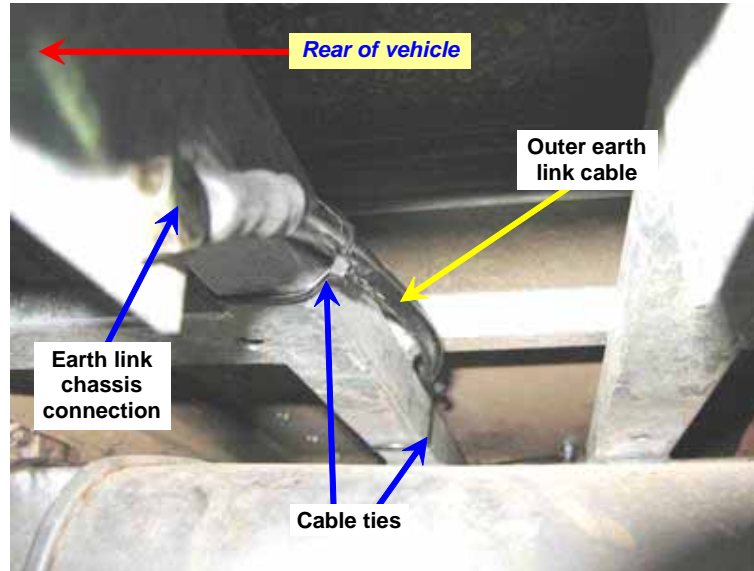

Figure 16 Main Battery Outer Earth Link to Chassis Connection
- (12) Route the outer earth link cable along the chassis cross-member towards the middle of the vehicle.
- (13) Secure the 10 mm lug on the free end to one of the existing holes in the spare wheel bracket (not used) with an M10 x 30 mm bolt (NSN 99-122-4911), 10 mm Flat washer (NSN 99-142-6475), an 10 mm lock washer (Table 1, Item 20), and M10 nut (Table 1, Item 46).
- (14) Secure the cable along the cross member with cable ties (Table 1, Item 87) as shown in Figure 16.